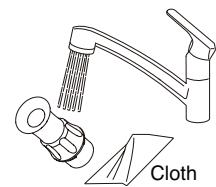
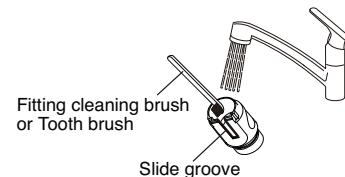
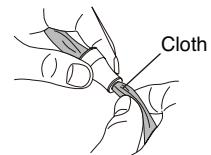

Fig.5-4 Surface cleaning
Fig.5-5 Cleaning of hole and sliding part
Fig.5-6 Cleaning the area
A. Wipe off the surface contamination by a cloth while rinsing the surface by running clean warm water at 40±5 degrees. (Fig.5-4) Scrub the intubation or hole, slide groove and filter by a cleaning brush or by a tooth brush with running clean warm water at 40±5 degrees. (Fig.5-5) Wipe off by a cloth for the area which brush is unable to reach. (Fig.5-6)